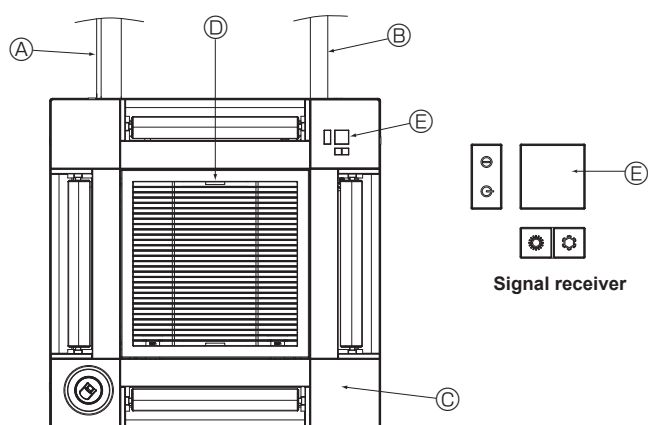

Fig. 10-17
10.5. Installing the intake grille (Fig. 10-17)